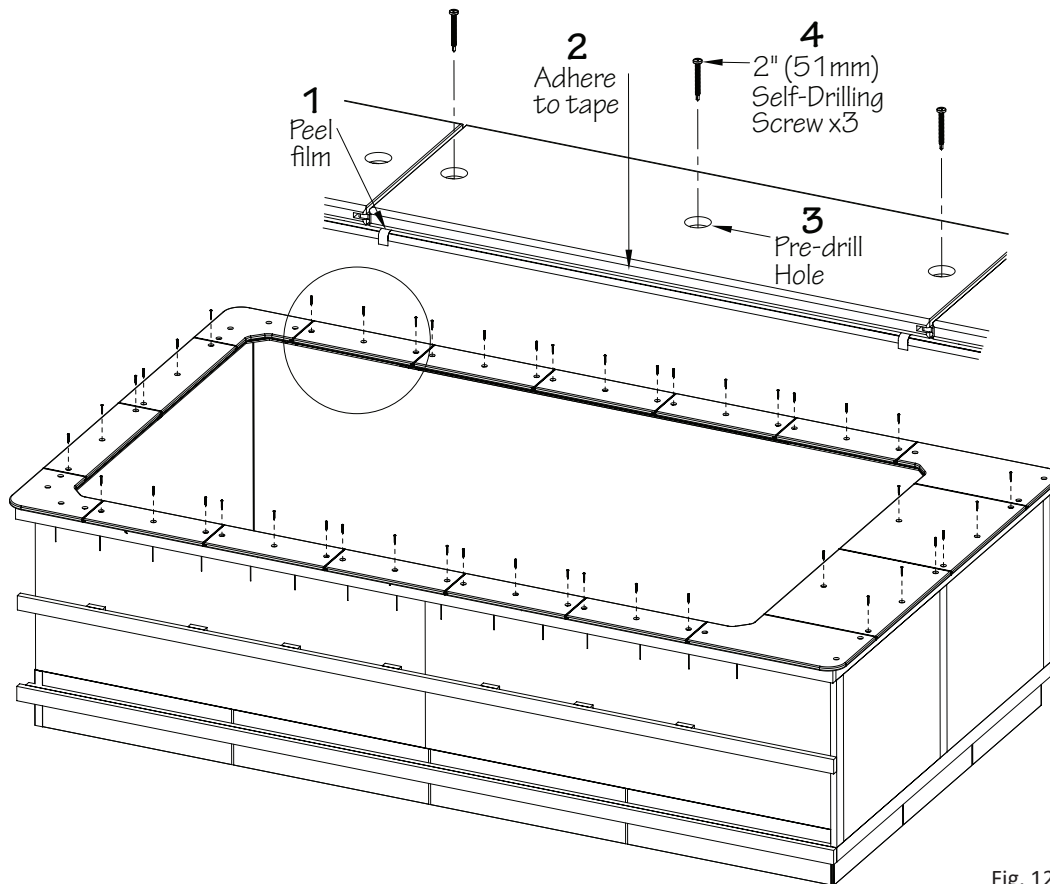

Fig. 12
11. Remove the film from the tape under the coping board. Apply pressure to the board to adhere it to the tape, maintaining board alignment and spacing. Pre-drill holes and attach the board so that screws are snug. Hand tighten or set drill to low torque setting. **DO NOT OVERTIGHTEN SCREWS.** The coping may bow or warp if screws are overtightened. **Repeat for all coping boards** (Fig. 12).